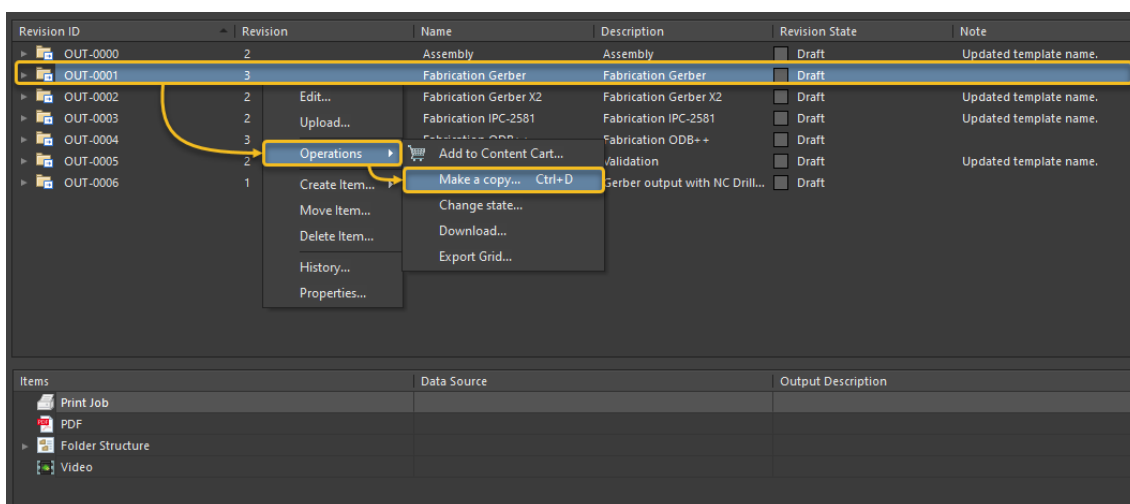

Figure 21. Copy an Output Job Template
78. You can copy the existing templates or create a new Output Job Template from Scratch. Let's copy the Gerber Output Job template to demonstrate the basic setup of an Output Job File. Use Figure 21 as reference.